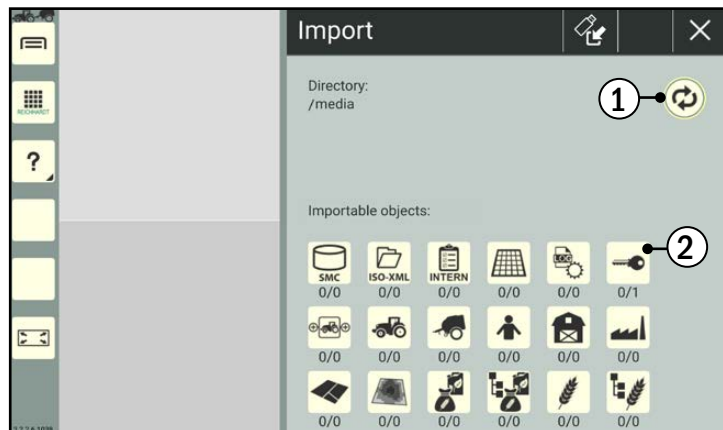

Fig. 167: Selecting the directory and importing the license
- Use the button with the double arrow to select the directory that contains the license file (see Fig. 167 – 1).
- Select "License" as the importable object (button with key; see Fig. 167 – 2).